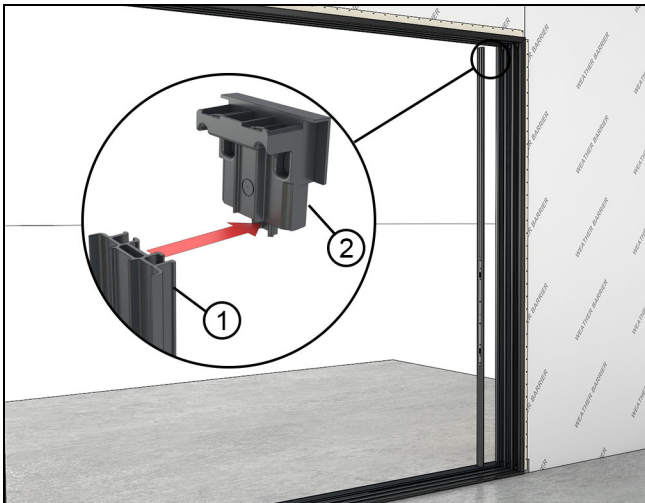

Figure 69
8. On uni-directional units, install the jamb filler with strike attached. The filler will snap into place, engaging with the top and bottom corner keys. See Figure 69.